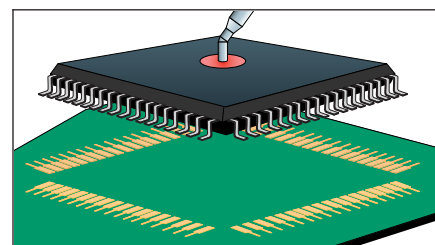

Figure 1 Align Component
3. Align the component carefully to the lands. (See Figure 1.)